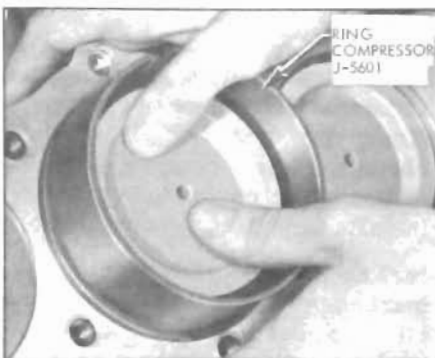

Figure 2-89—Installing Piston With Compressor Installed
13. Lubricate the piston and rings and install in bore by compressing the rings either with a "wrap around" compressor or a split ring type such as shown in Figure 2-89.